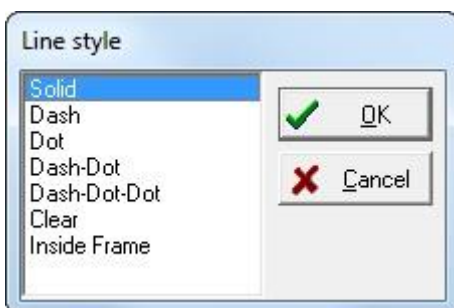

Fig. 29 Line style.
- **Line Style** is used to change the line style of the DataSet in the graph (Fig. 29).